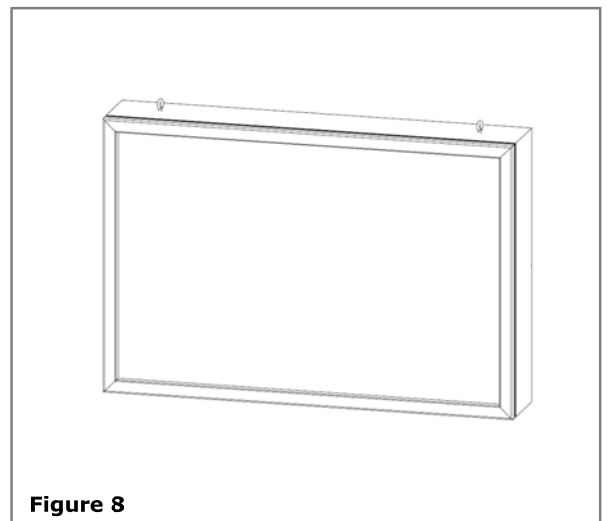

Figure 8
2. **Suspended Option** – Hanging loops are attached to the unit when constructed. Attach appropriate hanging hardware (chain, cables, etc.) to suspend unit. Cord may be tied to chain or cables with tie-wraps. **See Figure 8.**